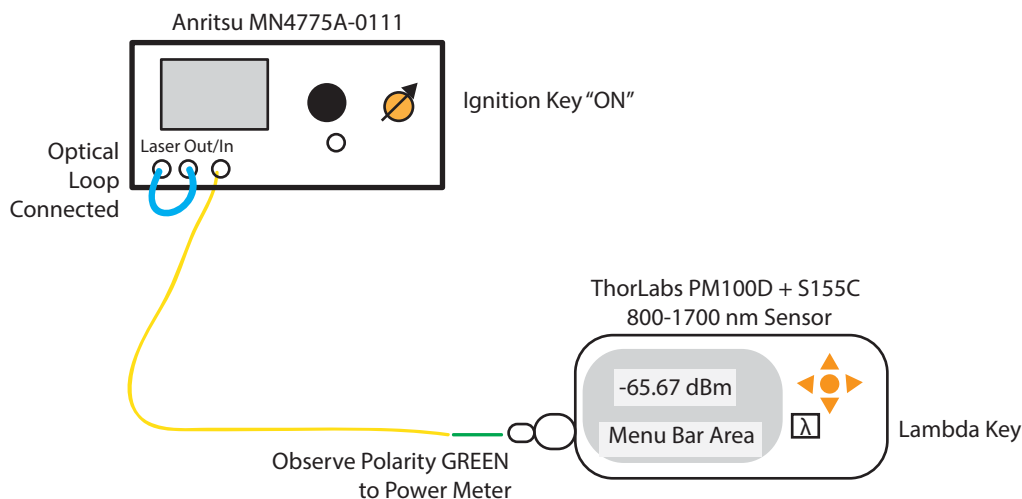

Figure 3-16. Optical Power Measurement – 1310 nm Configuration
- a. Connect PM100D OPM to E/O Converter Output via Optical Cable as shown in Figure 3-16.